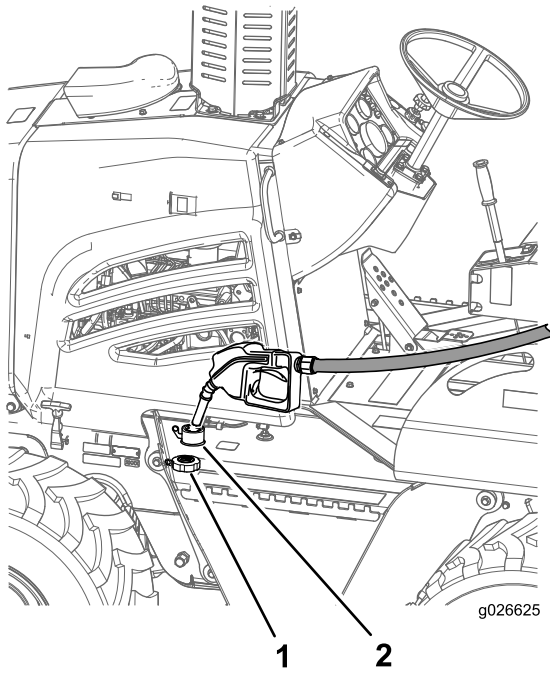

Figure 18
1. Clean around the fuel-tank cap (Figure 18), and remove the cap from the tank.